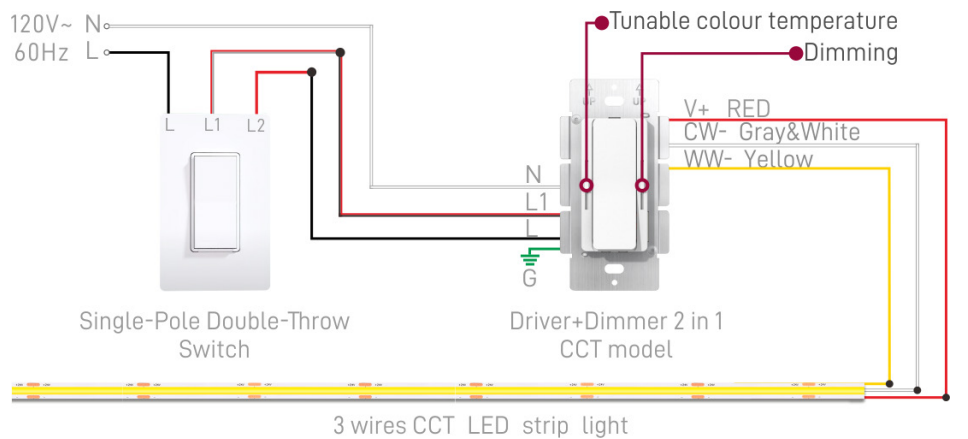

FIGURE 8
8. Mount dimmer to wallbox and attach trim plate. See Figure 8.